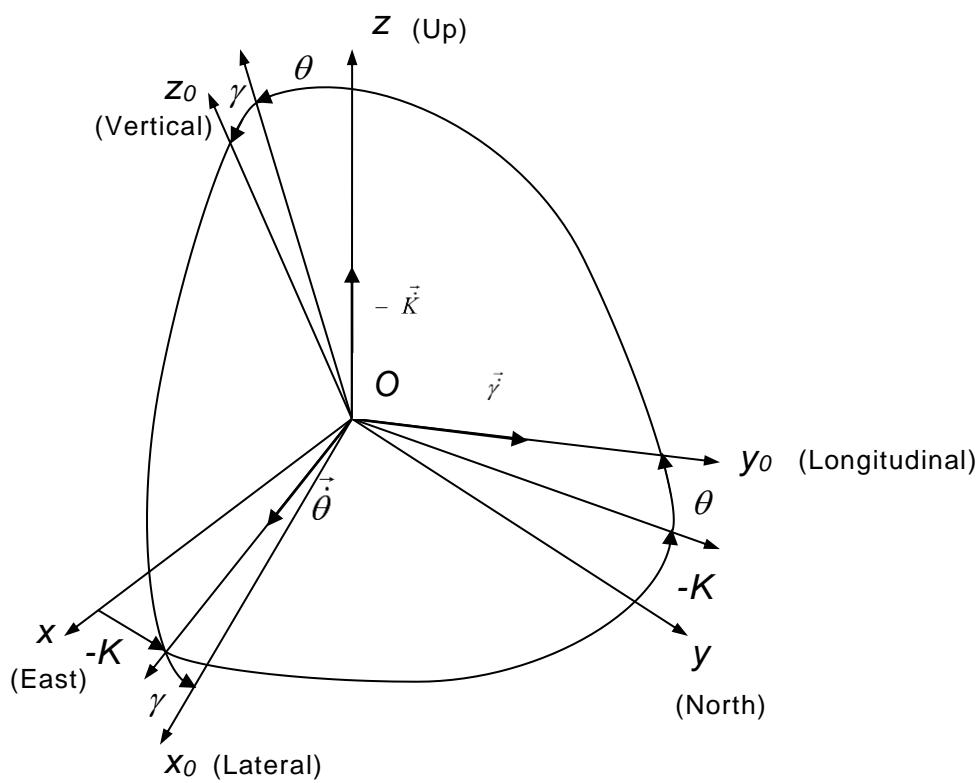

Figure C.1. Transformation of Coordinate Systems
The Inertial Labs INS calculates the orientation of the coordinate system $Ox_0y_0z_0$ fixed to the carrier object with respect to the Cartesian geographical reference frame $Oxyz$. In this system, axes Ox and Oy are level and directed to the east and north, while the Oz axis is directed up. This reference frame is also known as ENU (East-North-Up) Earth-level frame. The measured angles are the standard Euler angles of rotation from the Earth-level frame to the object frame: heading K is first, then pitch θ , and roll γ as seen in **Figure C.1**
1. Since positive direction of heading is clockwise, heading K is shown with a minus sign in Figure C.1.
The Directional cosine matrix (DCM) is the rotation matrix \mathbf{C} from the object body reference frame $Ox_oy_oz_o$ to the geographical reference frame $Oxyz$. According to **Figure C.1**, DCM can be represented through Euler angles as: